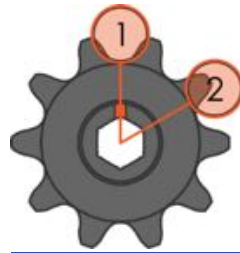

Figure 47: Shaft Alignment Example
In many cases the number of teeth on the gear or sprocket is not divisible by six, the number of sides on the hex shaft, and therefore the relative rotation between two of the same part will result in the teeth being out of alignment with each other. As Figure 47 shows, if the first sprocket was put on a shaft with the alignment notch facing upwards (noted by ①), there would be a valley at the top of the sprocket. If the second sprocket was added to the shaft, but rotated clockwise by 60 degrees (by the turn of one flat side), there would be most of a sprocket tooth at the top of that sprocket (noted by ②). It's possible to build a working system without aligning stacked parts, but it's not recommended.